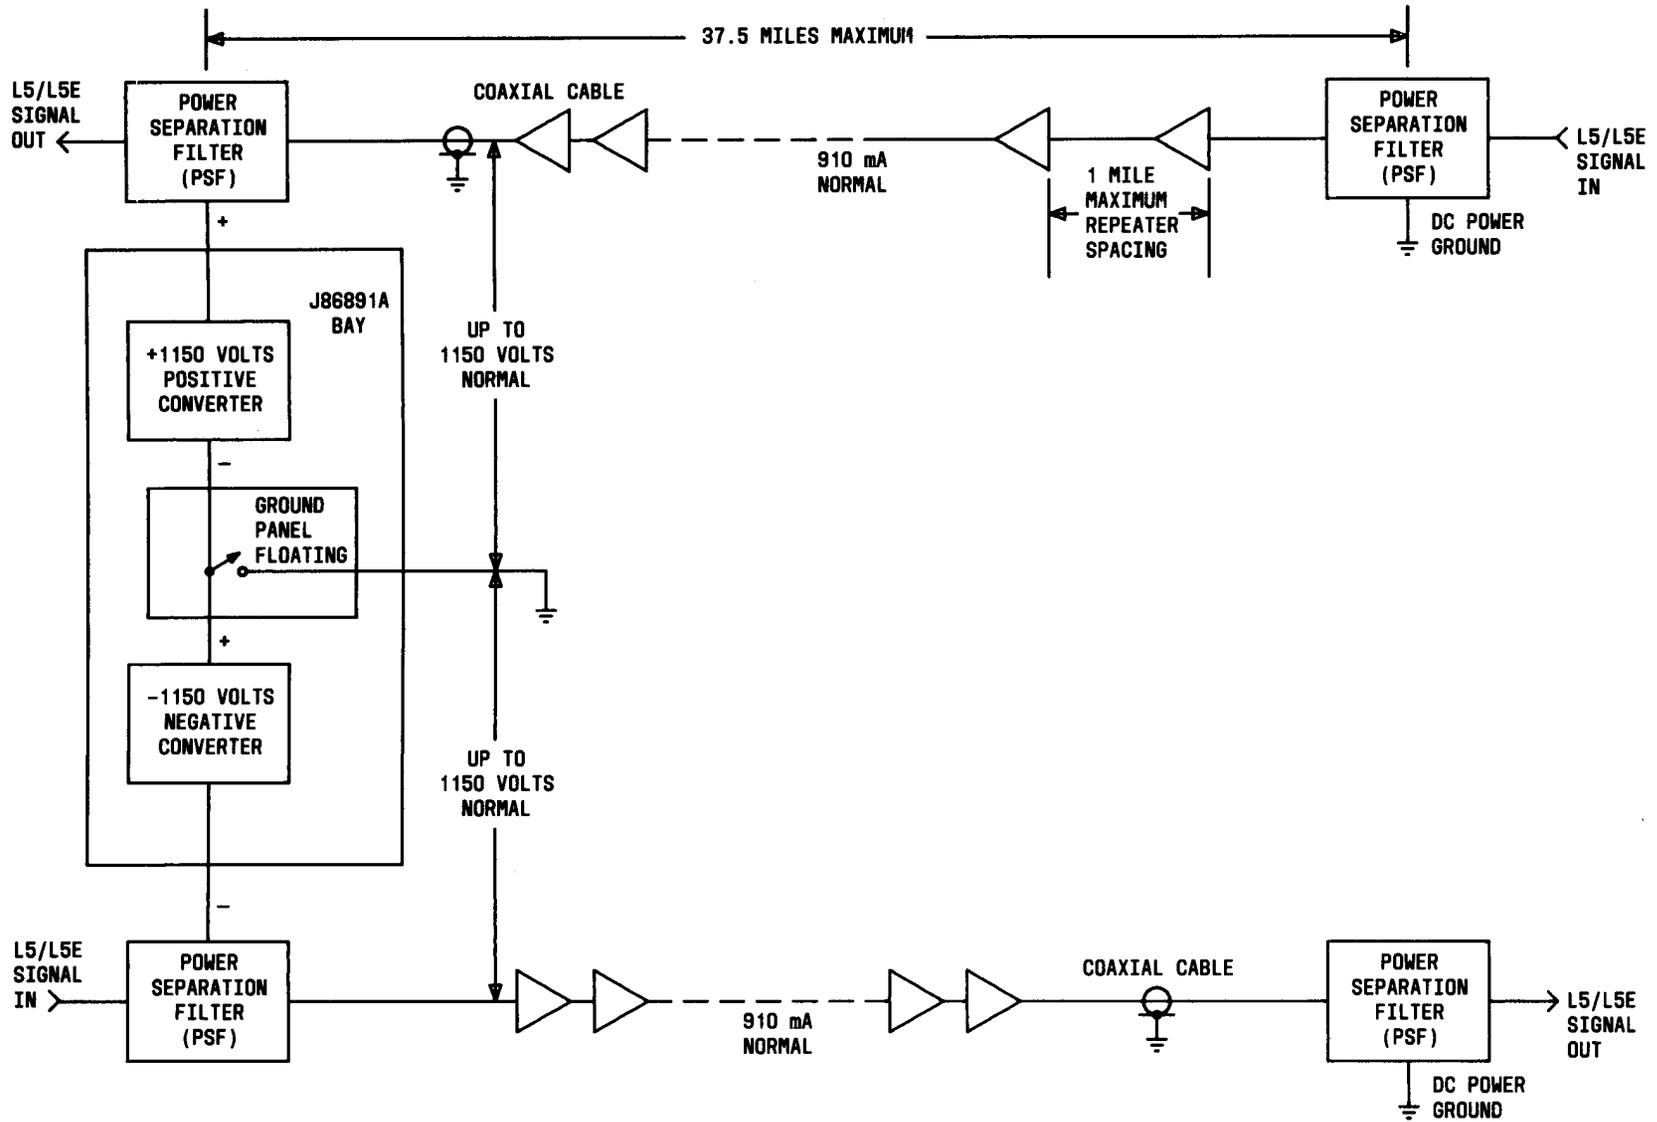

Fig. 3—L5/L5E Single—Ended Power Feed Using 680A Power Plant
1.07 If the length of the coaxial line is no greater than 37.5 miles, the line is powered by a single-ended power feed arrangement (see Fig. 3). A single-ended power feed is powered at one end of the cable by one regular CONVERTER supplying NEGATIVE voltage to one tube and POSITIVE voltage to the other tube. The opposite end will be nonpowered and will have a solid dc ground provided by the power separation filters (PSF).